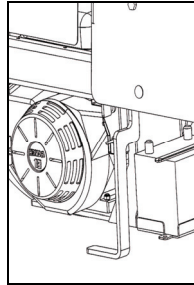

Figure 9.3 Pusher start pedal
- 7- By pushing on the start pedal located at the rear of the bale wrapper (Figure 9.3), you will start a pushing cycle. You must manually remove the unloading post (push forward) while the pusher is moving backward.